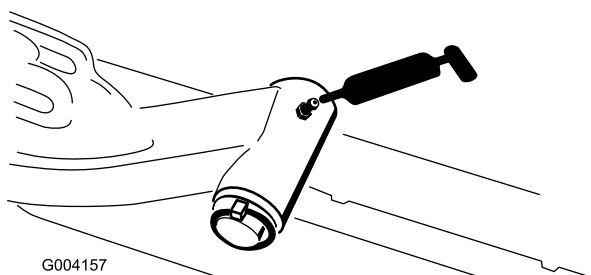

Figure 49
- Lift-arm-pivot shaft (1 each) (Figure 49)